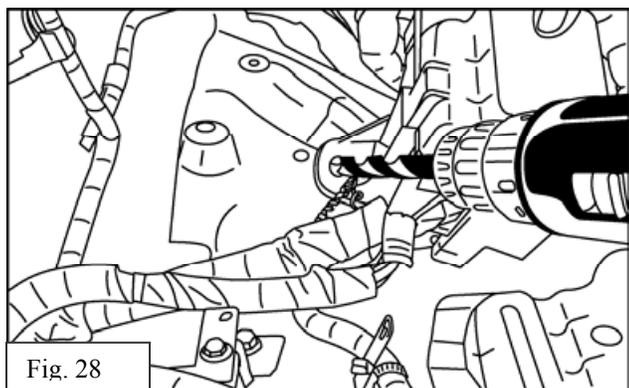

Fig. 28
- (q) Temporarily unbolt OE Fuse Box and drill out 3 OE mounting holes using a 1/2" diameter drill bit. NOTE: You may need another person to hold fuse box while you drill out the 3 holes. This operation is to allow the fuse box to be mounted slightly forward of it's OE position so that there will be room for the larger TRD airbox. See Fig 28, Fig 29, and Fig 30.